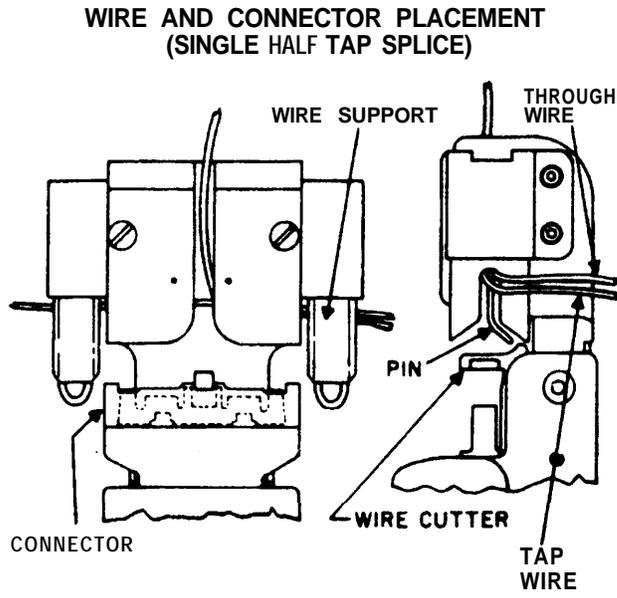

Figure 8. Placing Wires in VS-3 Tool for Single Half Tap Splice Operation.
3.10 When inserting the wires for tapping: (see Figure 8)